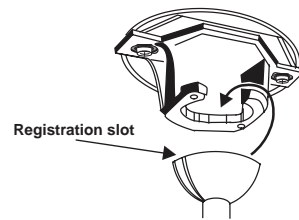

Figure 9
Step 7. Now lift the motor assembly into position and place the hanger ball into the hanger bracket. Rotate until the "Check Tab" has dropped into the "Registration Slot" and seats firmly. (Fig. 9). The entire motor assembly should not rotate if this is done correctly.